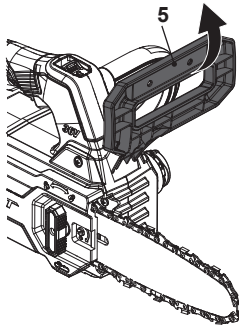

Fig. 16: Disengage the chain brake
**Disengage the chain brake:** When the chain brake lever (5) is in the disengaged position, the product can be operated with running saw chain (Fig. 16).